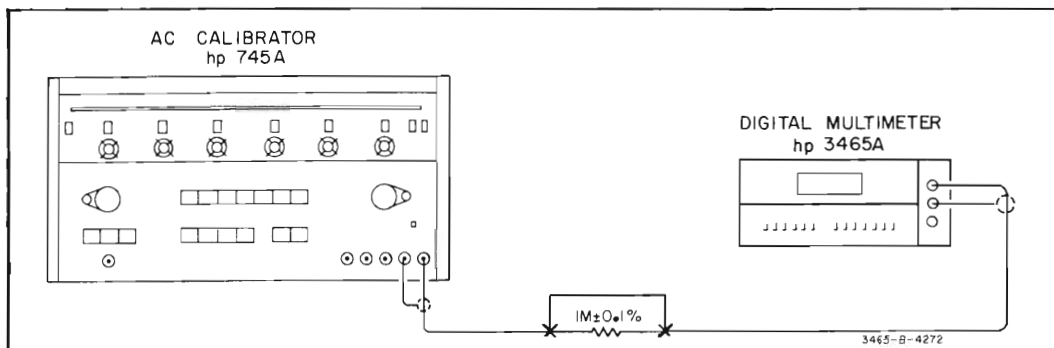

Figure 5-7. AC Voltmeter Input Impedance Test.
a. Connect the AC Calibrator and a 1 M Ω resistor as shown in Figure 5-7. Connect a jumper across the resistor.